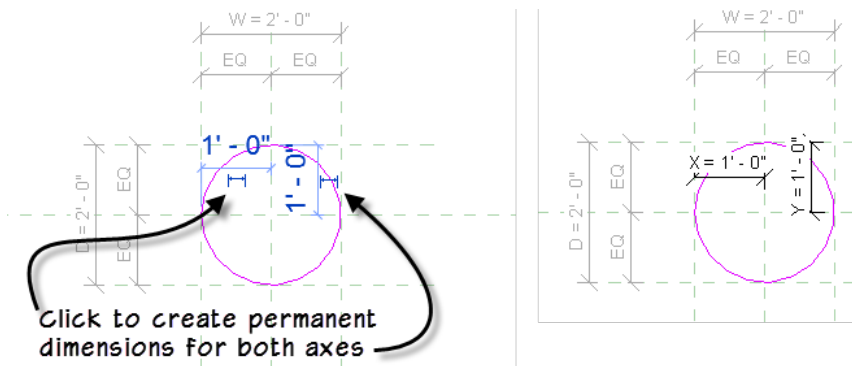

Figure 9—Draw an ellipse and make the dimensions for both axes permanent
10. Make both dimensions permanent (see Figure 9).